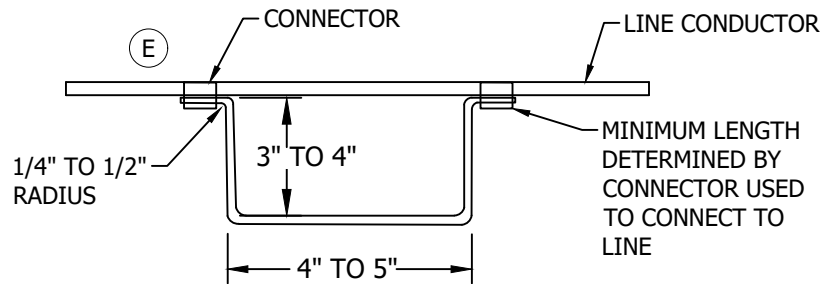

FIGURE 3
- (A) THE RECOMMENDED TORQUE FOR MAIN AND TAP CONNECTIONS IS 15 FOOT-LBS.
- (B) SEE STANDARD 783.15 FOR INSTALLATION NOTES.
- (C) COPPER WEDGE STIRRUPS DO NOT COME WITH BAILS. BAILS MUST BE ORDERED SEPARATELY. THE STOCK NUMBER FOR THE BAIL SHOWN IN TABLE 2 WILL WORK FOR ALL THE COPPER WEDGE TAPS LISTED.
- (D) HANDMADE STIRRUPS SHALL BE MADE OF NUMBER 4-3 STRAND COPPER, SHAPED AS SHOWN IN FIGURE 3. USE COPPER COMPRESSION CONNECTORS AS REQUIRED.